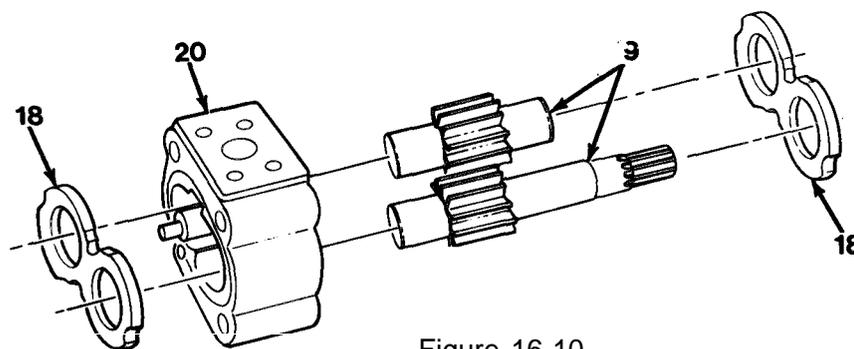

Figure 16-10
14. Remove two thrust plates (18) by tapping on shafts (19) to unseat thrust plates (18, Figure 16-10).
15. Remove two shafts (19) from gear housing (20).